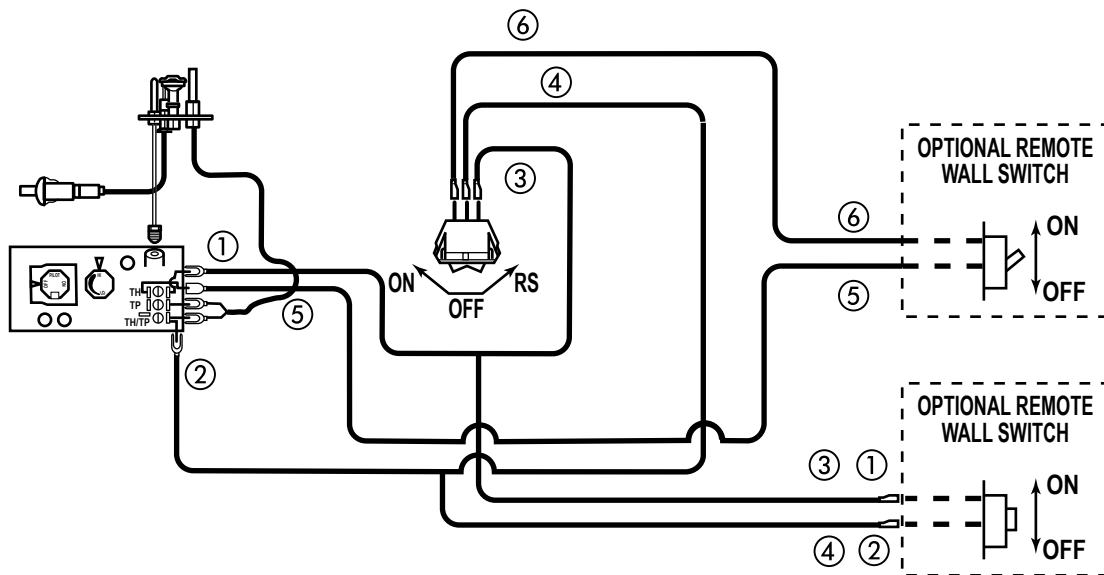

Figure 31 - Wiring Diagram for Wall Switch
A remote wall switch and up to fifteen (15) feet of 18 Ga. wire may be used with this appliance. Attach the wall switch in a junction box at the desired location on the wall. *Figure 31.* Do not extend beyond the wall switch wire length provided.